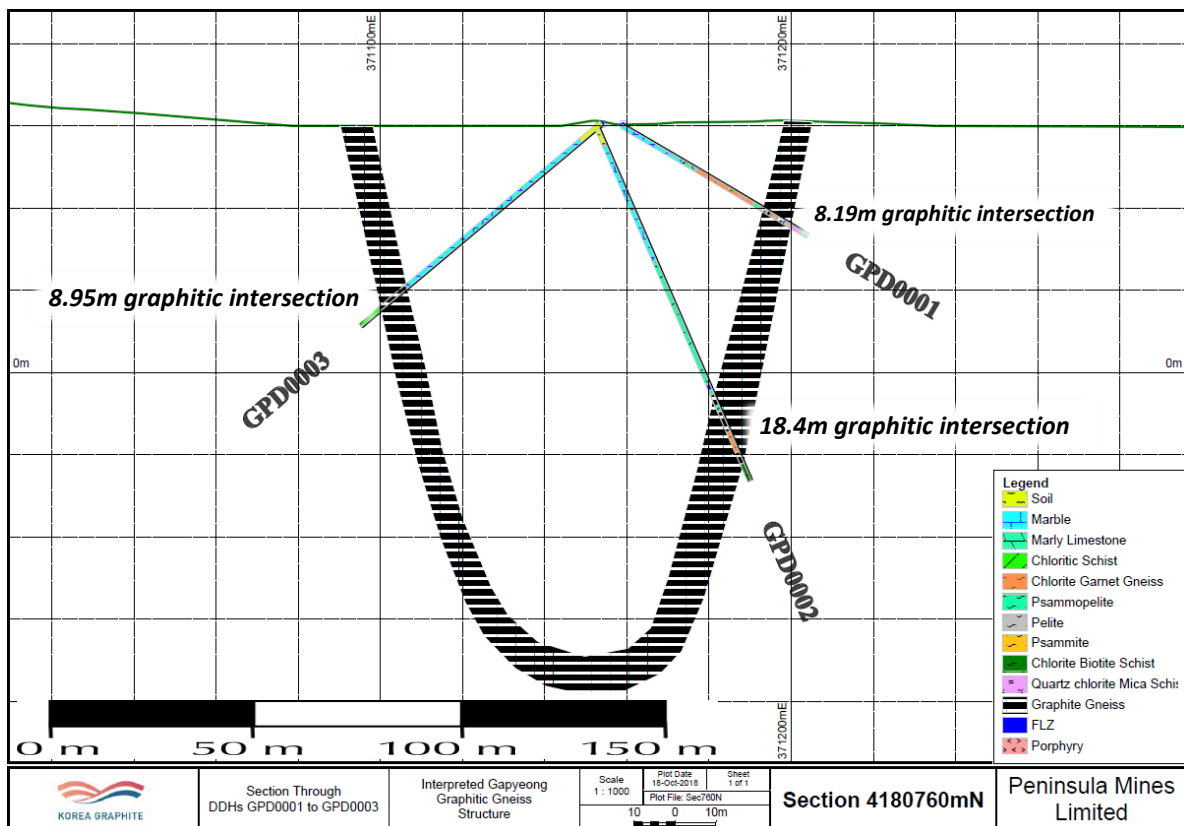

Figure 2: Gapyeong cross section 4,180,760mN showing drilling intersections & interpreted synformal graphitic unit
The graphitic units are hosted by marbleised limestone and ground/drilling conditions are very good. The Exploration Target model for Gapyeong was for a shallow plunging synformal structureD4, as indicated by the electromagnetic (EM) anomalyD10 model, and this has been confirmed by the initial drilling (see Figure 2).